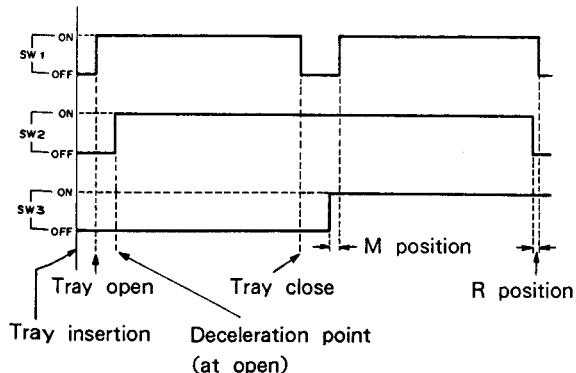
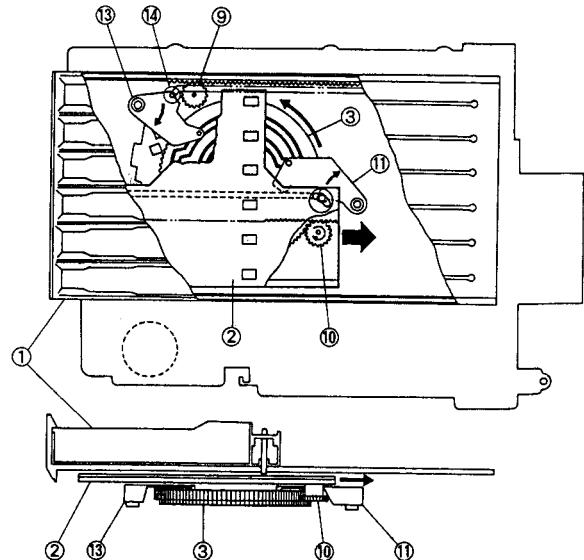
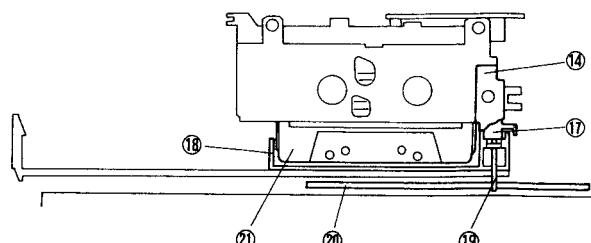
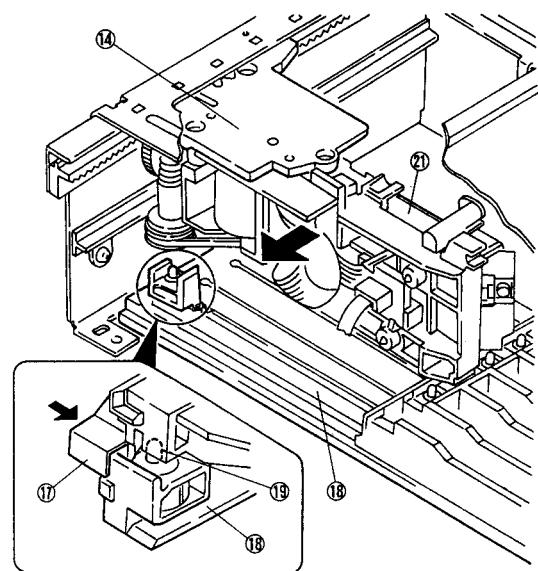

Fig. 10-2
Fig. 10-4
Fig. 10-9
Fig. 10-10
The relation of positions of the tray and drive plate are shown in the timing chart of Fig. 10-2.
When the tray ① is moved to the close position, cam lever A ⑬ locks the tray with the rotation force of the cam gear ③, as shown in Fig. 10-4. At the same time, the engagement of drive gear A ⑨ and the cam gear ③ is released. Next, the drive plate ② which is locked by cam lever B ⑪ is released, and drive gear B ⑩ and the cam gear ③ become engaged. The drive plate ② moves to the M position shown in the timing chart (Fig. 10-2).
This operation is the reverse of close operation. The drive plate ② moves slightly forwards, and is locked by cam lever B ⑪. At the same time, drive gear B ⑩ and cam gear ③ become disengaged. Next, cam lever A ⑬ is unlocked, drive gear A ⑨ and cam gear ③ becomes engaged, and the tray ① moves to the tray open position shown in the timing chart (Fig. 10-2.).
The drive plate ② moves backwards. However, as the drive plate ② and the stopper pin ⑯ are linked, the cassette half ⑦ moves backwards until the R position shown in the timing chart (Fig. 10-2.).
The cassette half ⑦ is handed over to the carrier ⑭ as shown in Fig. 10-9, and the carrier ⑭ returns to the cassette mechanism position (home position).
This operation is the reverse of the first cassette tape loading operation. The carrier ⑭ loading the cassette half ⑯ moves to the first cassette tape position (arrow direction) as shown in Fig. 10-10. The selector at the rear pushes the stopper pin ⑮ of the cassette holder ⑯ standing by at the rear position and links it to the drive plate (Pin ⑰ of Fig. 10-9.). This causes the cassette half ⑯ to move forwards to the M position shown in the timing chart (Fig. 10-2.).